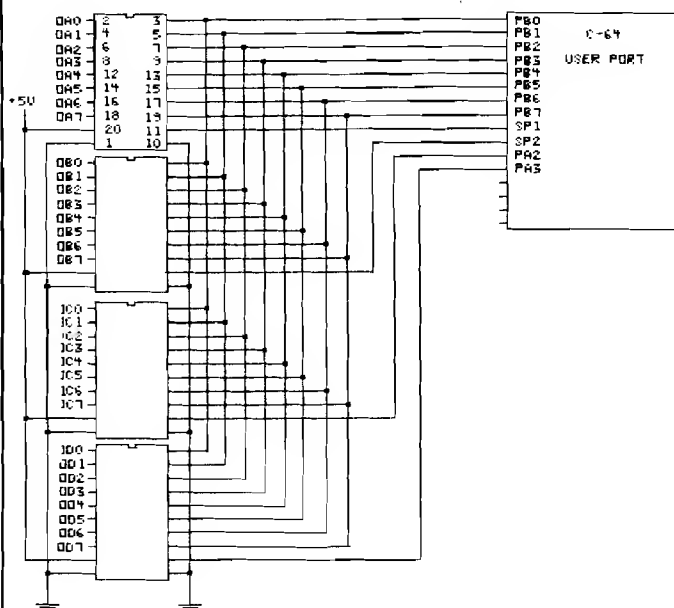

Figure 1. For 74LS374 latches selected by four unique strobes allows eight output lines to become the 32 output lines.
Last month we examined several programming modes on the 6526 CIA used for I/O on the Commodore 64. The shift register (SR) on the CIA was examined briefly, in that we learned to toggle the SR output (SP) by setting the mode to input (SP high) or output (SP low). This toggle mode of operation is useful if you wish to output multiple bytes of parallel data on the eight Port B lines of U2 (User Port). That is, by using SP1 (U1), SP2 (U2), PA2 and PA3 (U2) as clock strobes, eight bit values can be latched in four different latches as shown in Figure 1. Simply program all the port lines (PB0-PB7) as outputs, then load the port with the output data. Pulse one of the four strobe lines and the data will be transferred to the strobed latch.
You should note a few things shown in Figure 1. First, all the 74LS374 latches are wired identically. Pin 11 is the Clock pin which causes the input data to be captured on the rising edge of the clock signal. Each clock line is driven from a different strobe output on the port, thus allowing different data to be saved in each latch. Pin 1 on each latch is the Output Enable line; these lines are all tied low to keep the latch permanently enabled (compare with Figure 2). Also note that output latches do not have to have tri-state outputs, but input latches (Figure 2) must be able to disconnect from the bus unless it is a dedicated input.